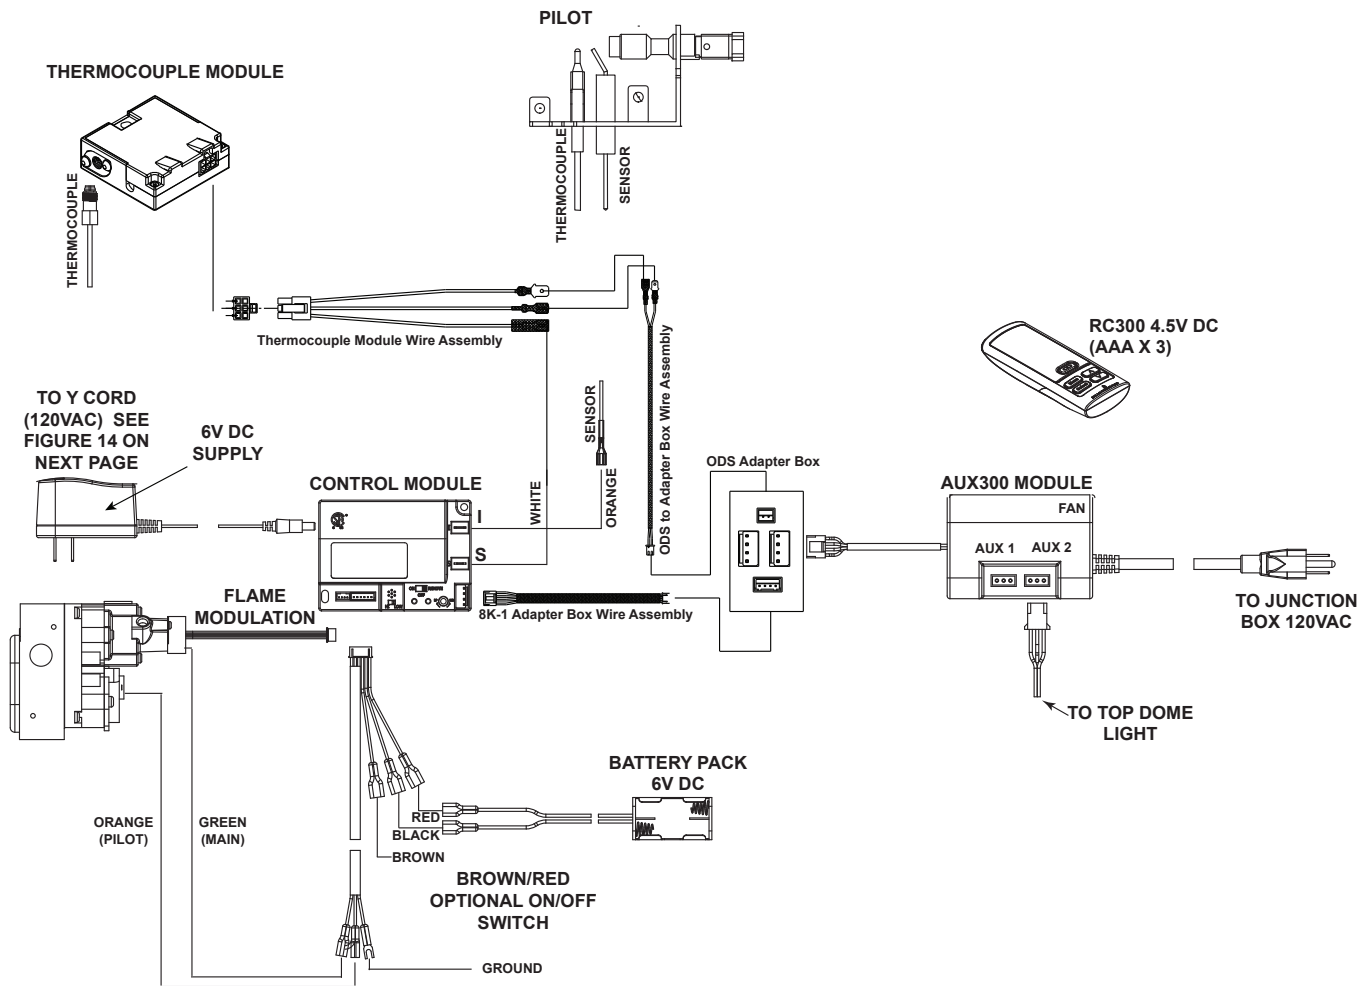

Figure 13. IntelliFire™ Plus ODS Wiring Diagram
- Refer to Figure 13 and 14, IFP ODS Wiring Diagram.